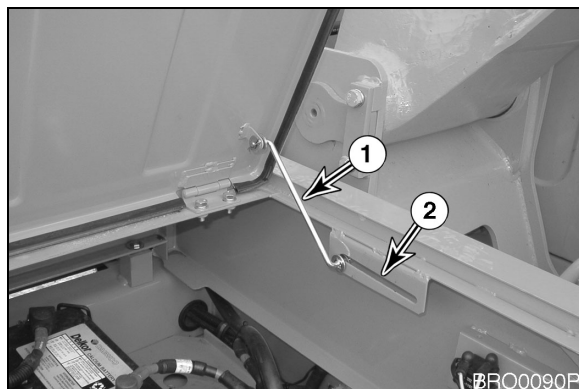

Figure 103
Open door and slide prop rod (1, Figure 103) in slot (2) until it locks in notch at end of slot.